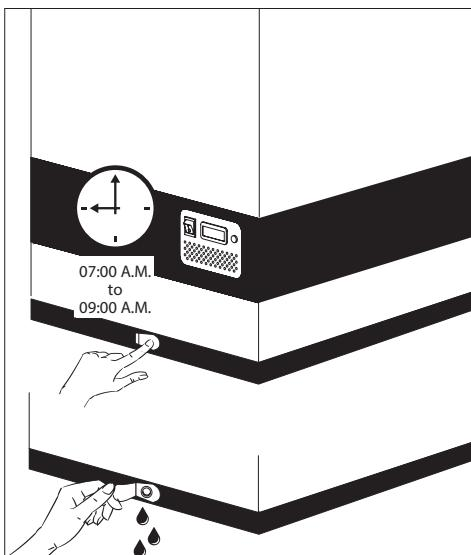

fig. 7
1. Disconnect the power supply by switching off the ON/OFF button. Important! ONLY switch off the power supply of the freezer compartment. (See fig. 7)